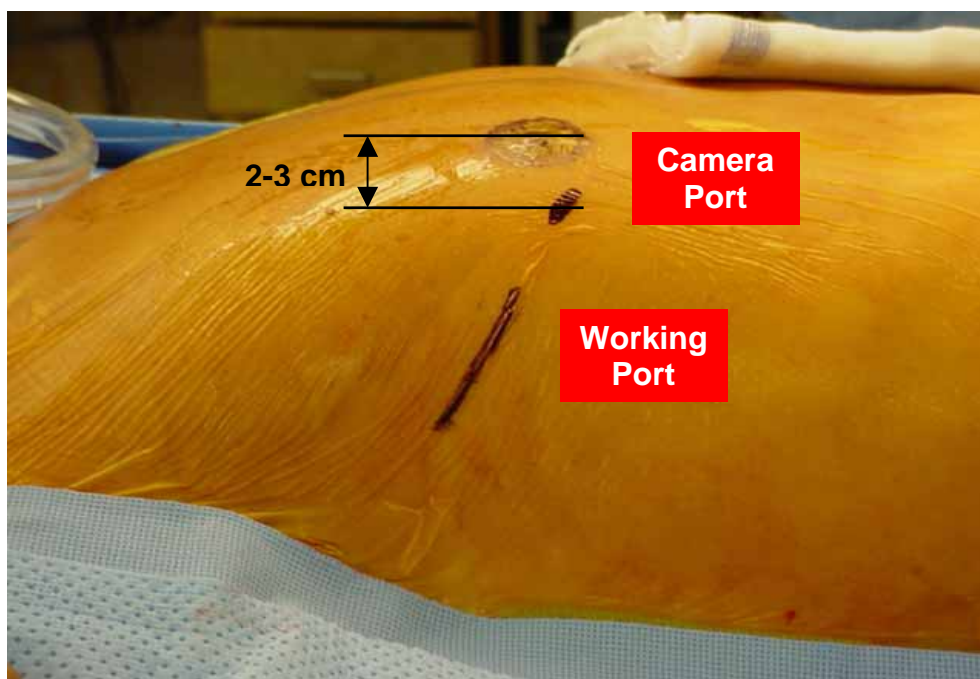

Figure 7: Camera and Working Port sites for the lateral approach in a male
- The planned endoscope and working port incisions can be marked [Figure 7].